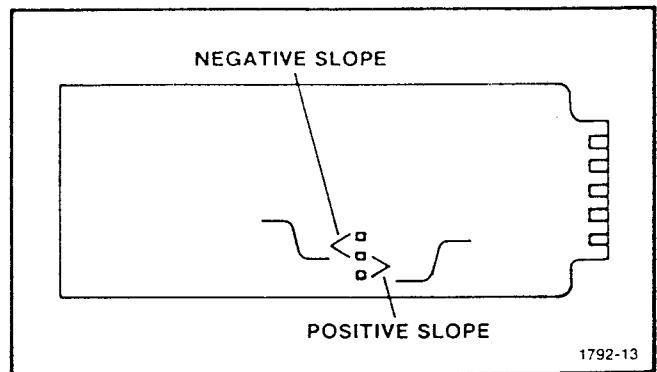

Fig. 4-22. X-Y Output Module Board
2. Connect the jumper on the Output Module Board to the negative slope pins. (see Fig. 4-22).